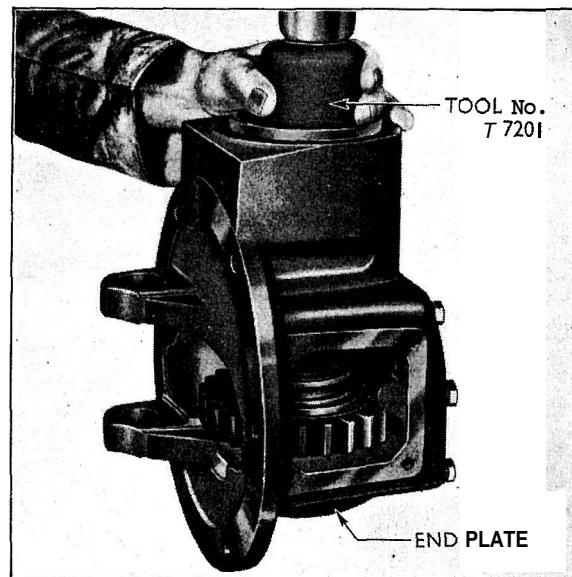

Fig. 4
3. Fit the tapered sleeve (T-7021-3) over the splines of the P.T.O. gearbox shaft, locate the new oil seal on to the tapered sleeve and drive firmly into position with the adaptor (T-7021-3) on the tool as shown in Fig. 4.